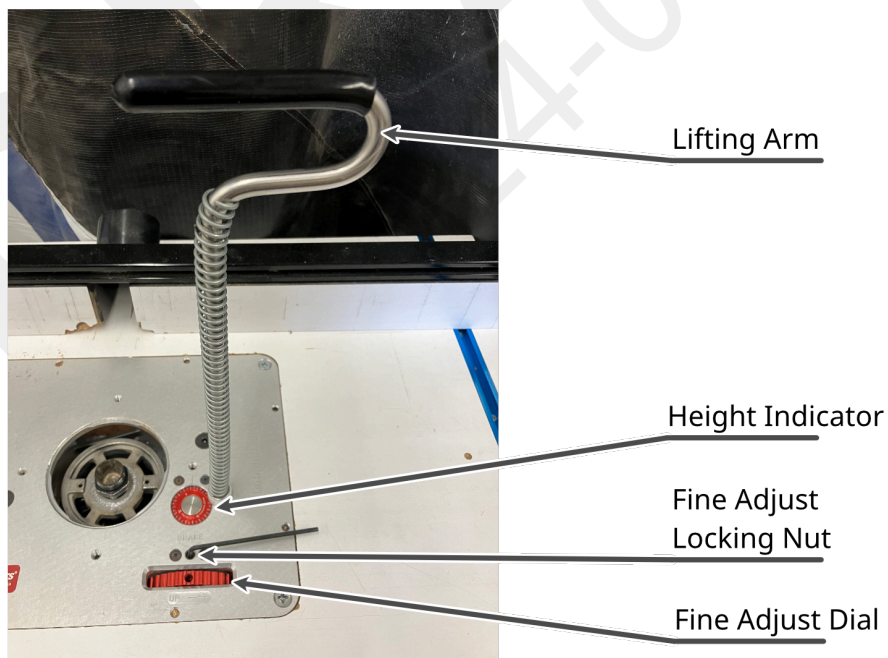

Figure 11: The router table lift assembly, with lifting arm inserted.
3. Rotate the lifting arm so that the black rubber handle is parallel to the track, pointing to the left, as shown in Figure 11.